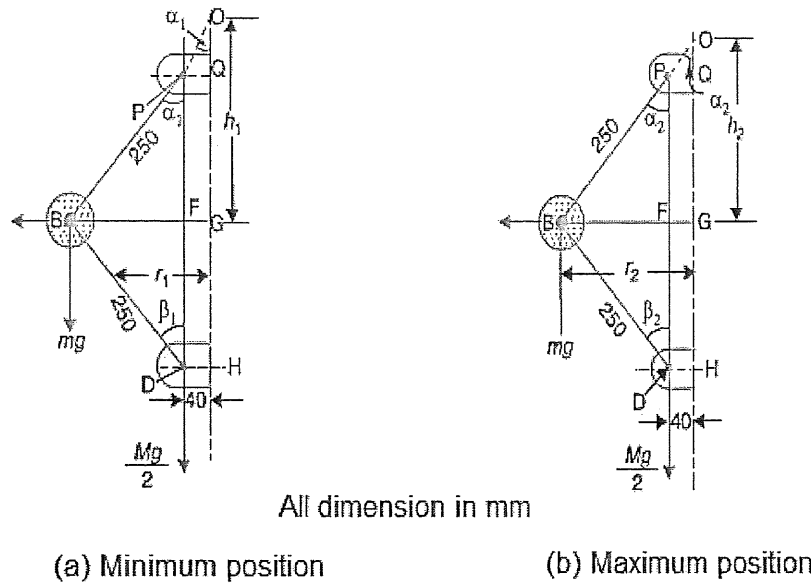

Figure 7
- b) Figure 7 shows a loaded Porter governor has four links each 250 mm long, two revolving masses each of 3 kg and a central dead weight of mass 20 kg. All the links are attached to respective sleeves at radial distances of 40 mm from the axis of rotation. The masses revolve at a radius of 150 mm at minimum speed and at a radius of 200 mm at maximum speed. **Determine**